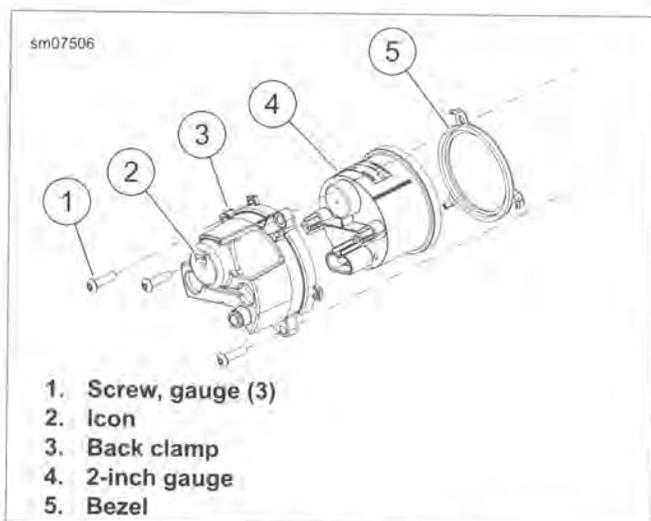

Figure 7-78. 2-Inch Gauge
5. See Figure 7-78. Remove screws (1). Remove back clamp (3), gauge (4) and bezel (5).
See Figure 7-78. Fuel and battery icons (2) are cast into the back clamp and inner fairing near each gauge opening to identify correct location. The voltmeter is always mounted on the right side and uses the tan back clamp. The fuel gauge is always mounted on the left side and uses the black back clamp.
1. Assemble gauge (4), back clamp (3) and bezel (5).
2. Install gauge in inner fairing. Secure with screws (1). Tighten to 8-12 in-lbs (1.0-1.3 Nm).